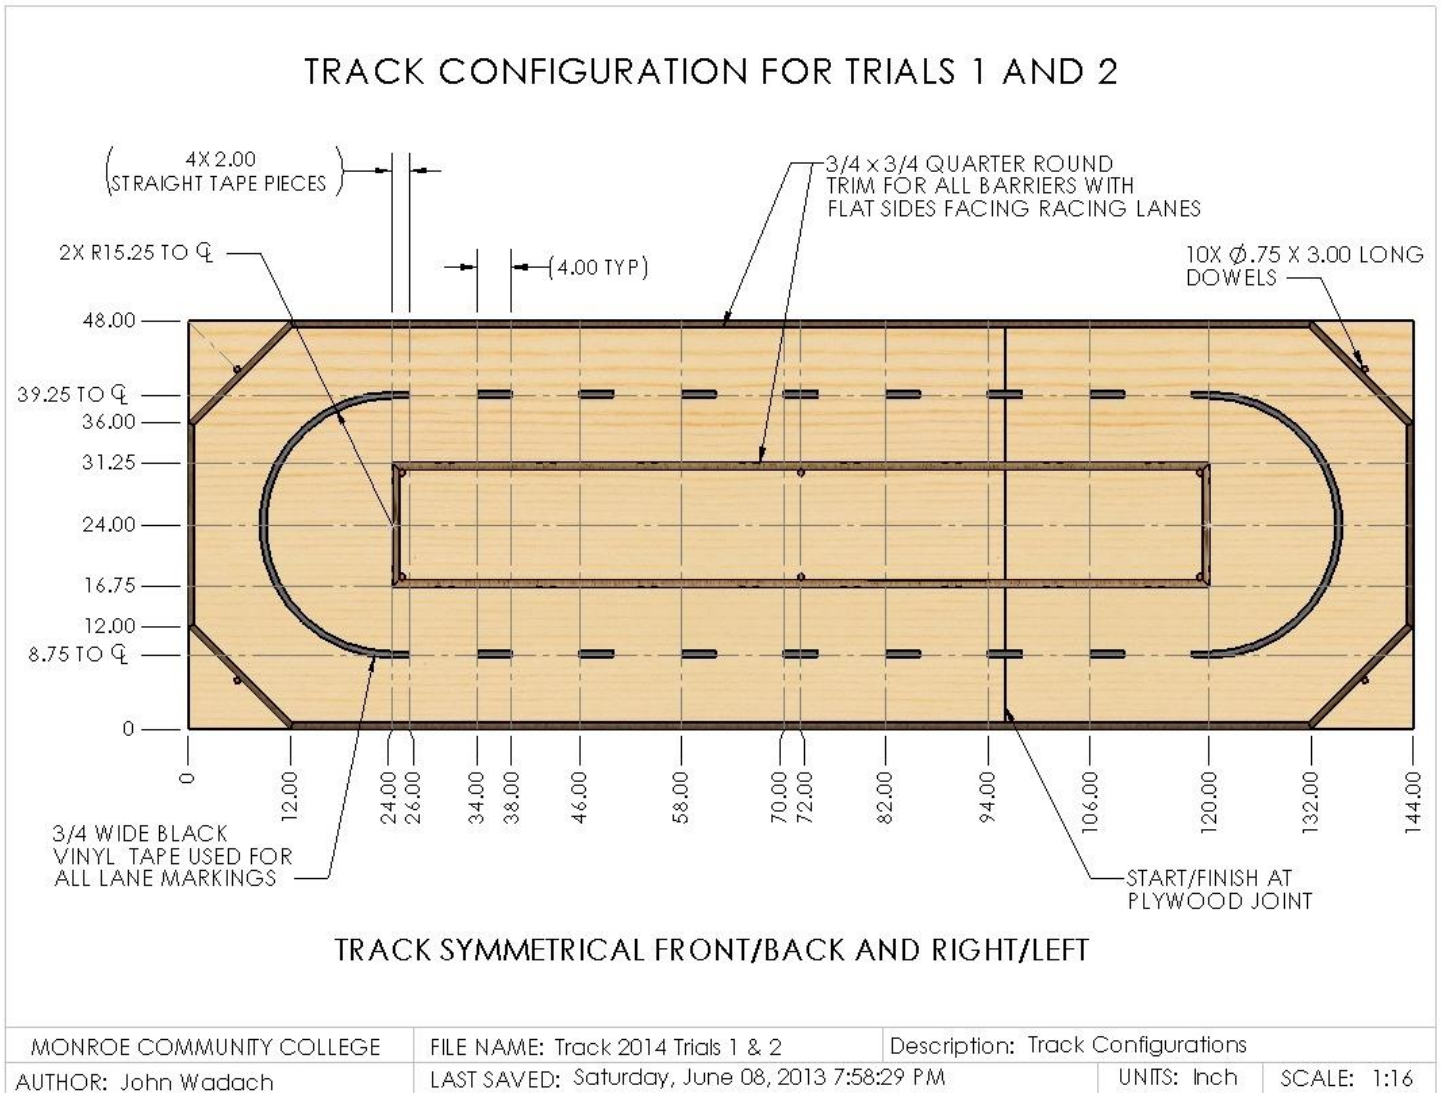

Figure 3: Section View with the Track Cut at the Joint Between the Sheets of Plywood
6. Fasten the perimeter boards to the track using 1.5" finishing nails so that the flat side of the trim faces the racing lanes (see figure 3). Set the nails, fill with putty. When the putty is dry, sand it flat.